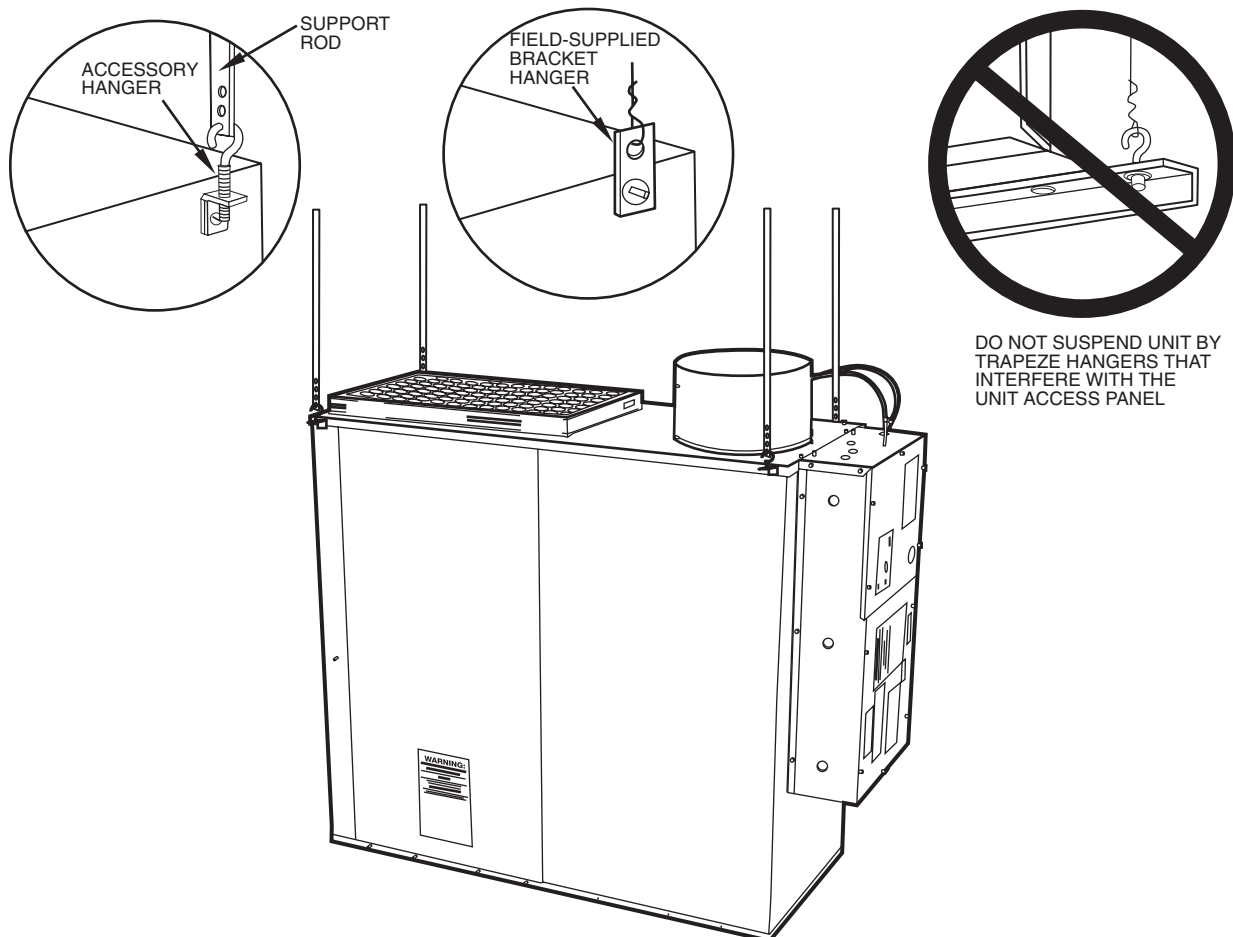
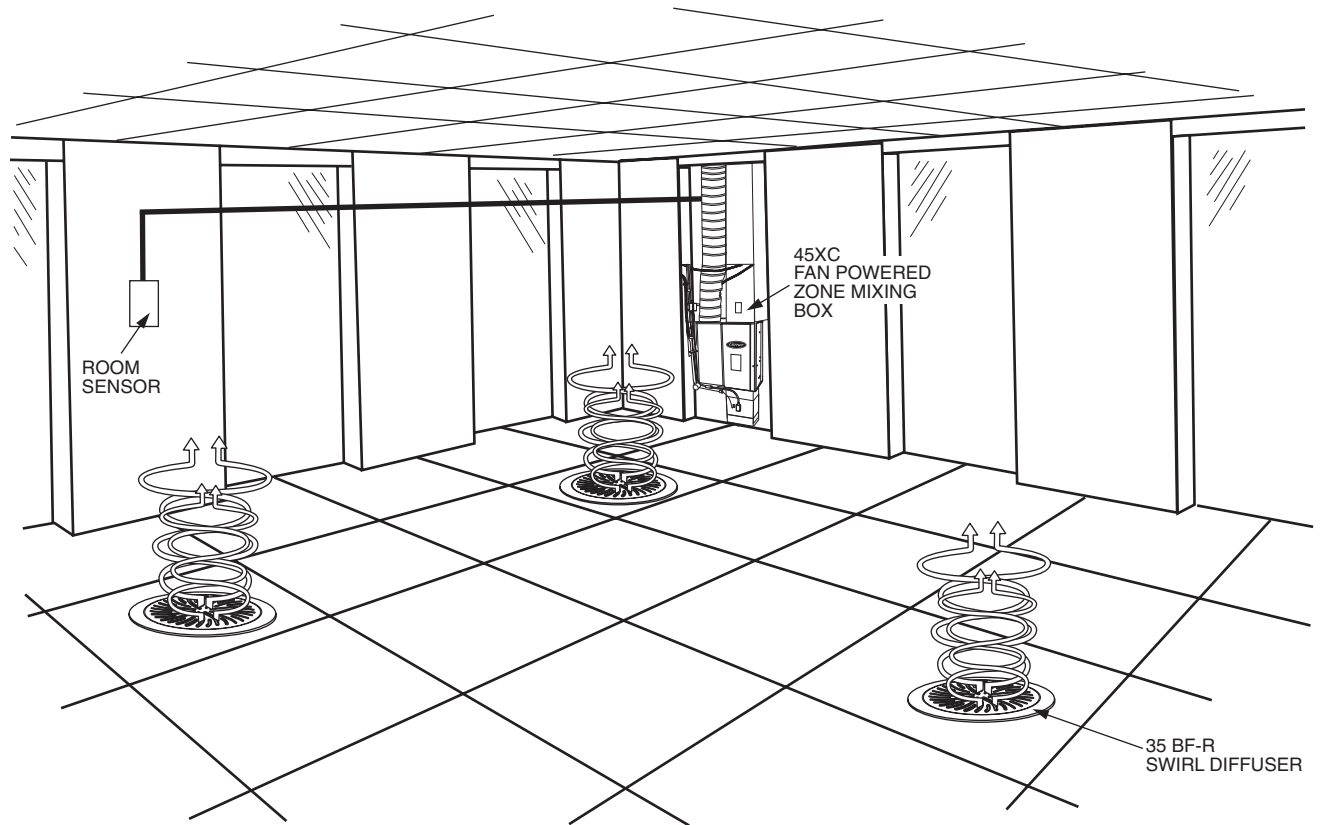

Fig. 13 — Typical 45XC Support Methods
Fig. 14 — Typical Underfloor Installation — 45XC Fan-Powered Mixing Box
1. Install field-supplied eyebolts, straphangers or bolt rod supports as desired. Figure 13 illustrates possible 45XC unit suspension methods. A typical underfloor installation is shown in Fig. 14.